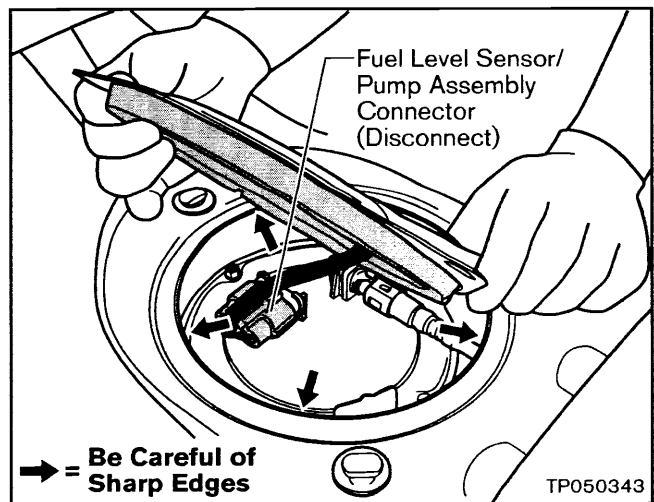

Figure 3b
- b. Then, lift the Cover UP and reach under and disconnect the Fuel Level Sensor/Pump Assembly Connector (see Figure 3b).
CAUTION: Be careful of the sharp edges around the Inspection Hole (see Figure 3b).